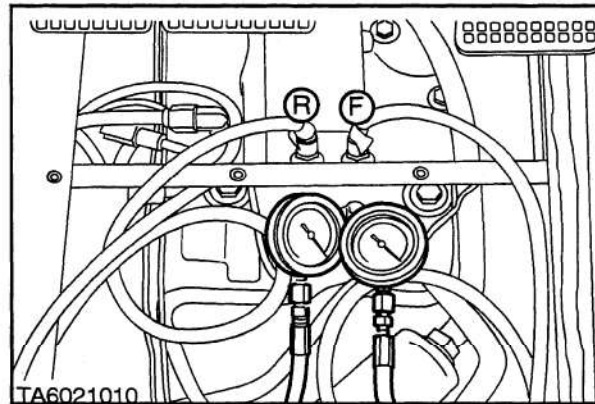

Figure 4-4-17
2. Install the pressure gauges, adaptors and hoses into the test points located in the top cover, Figure 4-4-17.